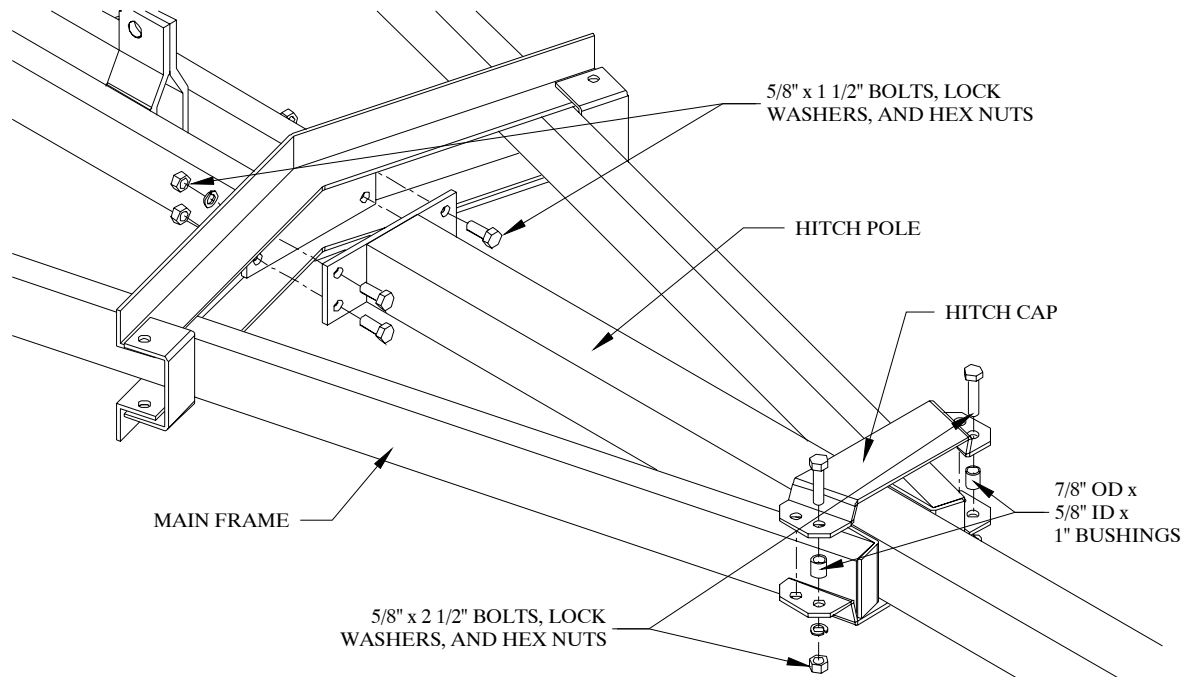
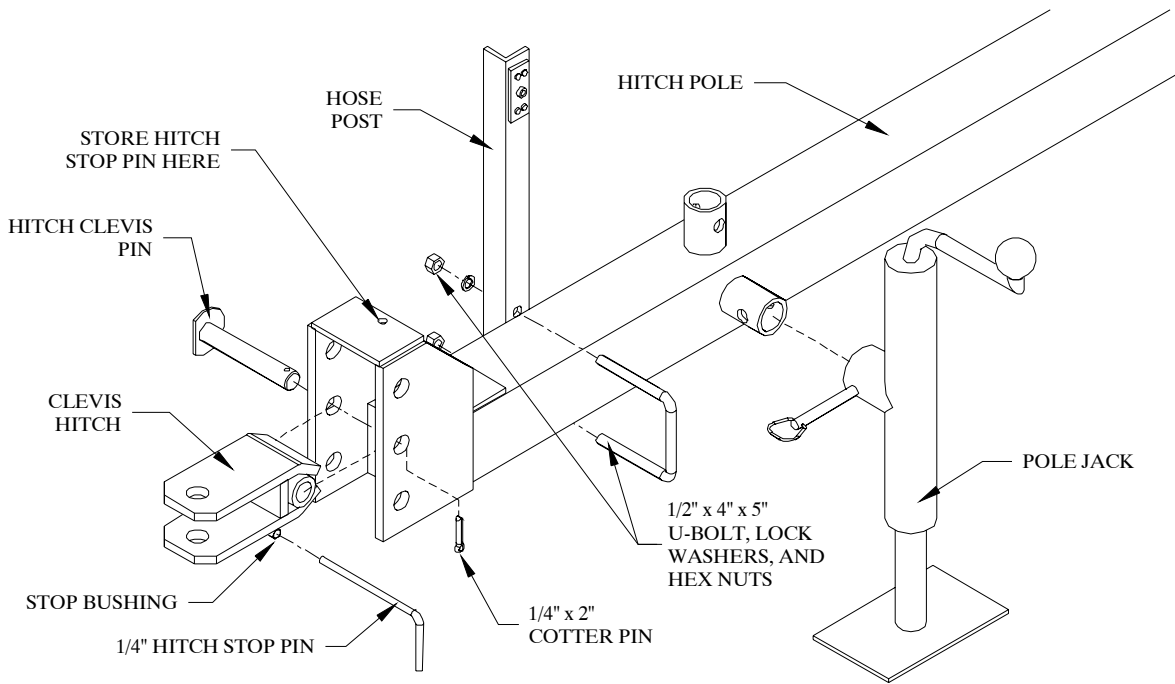

Figure 1
Figure 2
1. Place the hitch pole inside the main frame as shown in Figure 1 and bolt the rear of the pole to the frame with four $5/8'' \times 1\ 1/2''$ hex bolts, lock washers, and hex nuts. Be sure the hitch head is oriented as shown in Figure 2 on the next page.
2. Place the hitch cap over the hitch pole with two $7/8''$ OD x $5/8''$ ID x 1" bushings between the plates at the front two holes. Refer to Figure 1. Fasten the hitch cap with two $5/8'' \times 2\ 1/2''$ bolts, lock washers, and hex nuts in the front two holes. Do *not* completely tighten the bolts yet.
4. Attach the pole jack to the hitch pole. Refer to Figure 2 on the next page. A round tubular stud is welded to the side of the hitch pole. A matching tubular stud on the jack fits over the first stud. The jack is held in place with the hitch pin that is attached to the jack.
5. Attach the hose post to the hitch pole ahead of the jack. Refer to Figure 2. The post is fastened with a $1/2'' \times 4'' \times 5''$ U-bolt, lock washers, and hex nuts.
At this point there should still be two holes available between the hitch caps (refer to Figure 1 on page 13).